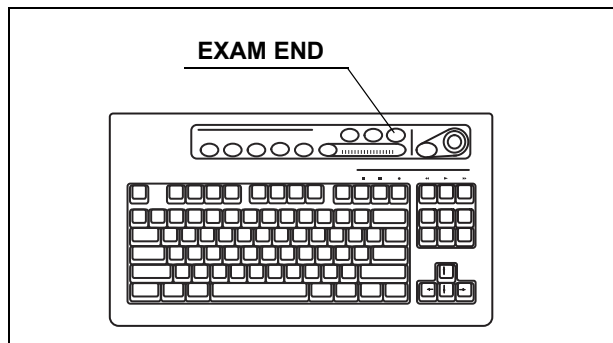

Figure 4.14
1. Press the "EXAM END" key (see Figure 4.14) to execute the following process;